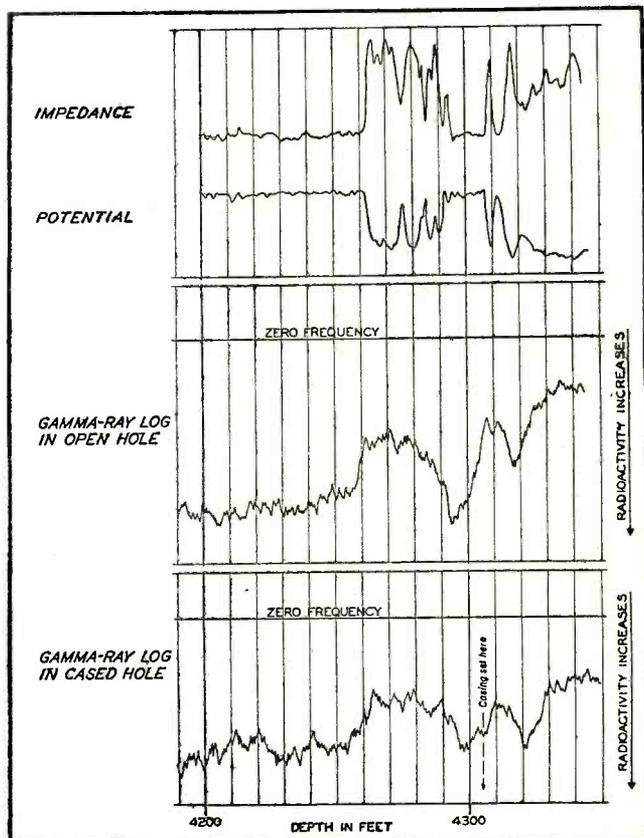

FIG. 3—Detailed logs made in a producing section of a well, electrically, and electronically in open and cased holes
Figure 3 shows the electrical logs made in the producing section of a well, the gamma-ray log made before the well was cased and the gamma-ray log made after the well was cased. The gamma-ray logs were made at a low logging speed, with a large RC time constant in the tank circuit of the frequency meter.
*Example II:* Determine  $E_s/E$ , for the circuit of Fig. 3 at frequencies of 250, 800, 1,000 and 2,000 cps.
The first step is to number all the impedances and their combined values, preferably in the order in which they will appear in the solution. Thus, impedance (1) of Fig. 3 combines with (2) in parallel to get (3), which in turn combines in series with (4) to get (5), the input impedance. Next, the given impedances for the proposed frequencies of solution are computed and entered in the incomplete table shown directly under the circuit diagram. The values may be kept in thousands of ohms or megohms, to avoid carrying unnecessary digits through the tabulation. The  $p$  and  $s$  at the left are to remind us whether parallel or series combination is to be made. Blank spaces are left for the chart parameters and the unknown impedances. These are filled in by the method of Example I in a systematic manner, preferably carrying the slide rule or chart work as far as possible at one time to avoid switching back and forth more than necessary.
The tabulation as completely filled in at the bottom of Fig. 3 provides for easy checking and